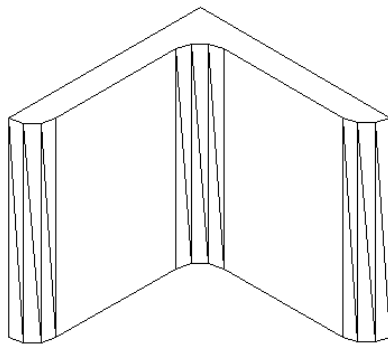

Figure 24-11: The completed mounting angle.
7. Save your drawing. It should look like Figure 24-11.